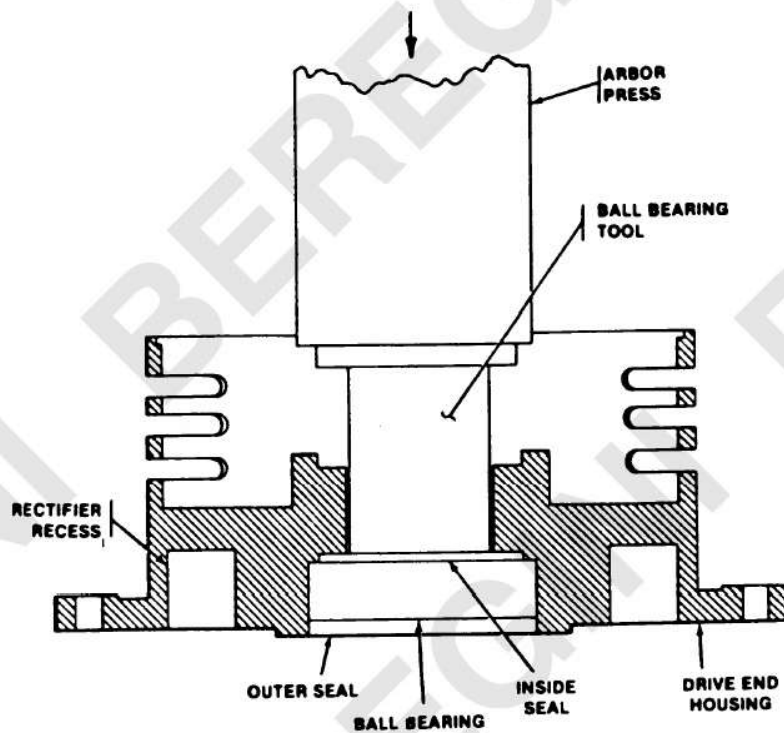

Figure 3-6. Inside Seal, Ball Bearing, and Outer Seal Removal from Drive-End Housing Assembly.
(b) Place ball bearing tool (fig. F-1) on inside seal according to figure 3-6. Press out inside seal (22), ball bearing (23), and outer seal (24), all at the same time. Discard both seals and ball bearing.